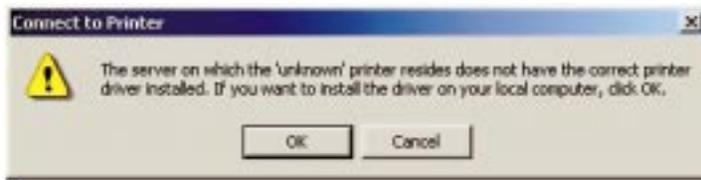

Figure 8-5
4. If the connection can be established, and the printer on that port is online, the dialog box shown in Figure 8-5 will be displayed. This screen notifies you that the printer driver is not installed. Click the **OK** button.